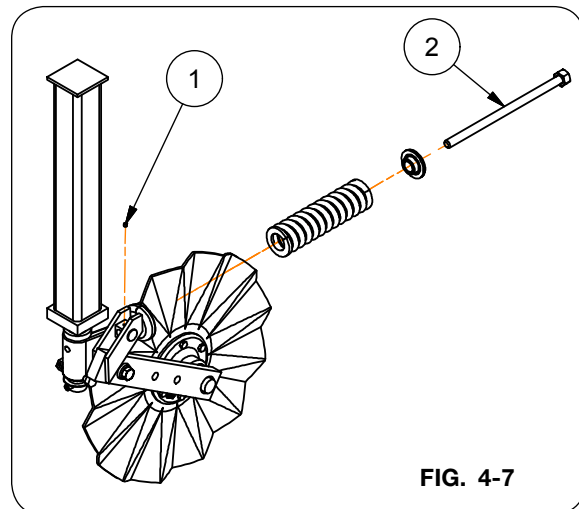

FIG. 4-7
6. Remove the spring cans from the toggles by spreading the cans. See Fig. 4-7.
1. Loosen the set screw retaining the spring bolt on the coulter arm (FIG. 4-7).
2. Slowly unscrew the spring bolt which will relieve spring pressure (FIG. 4-7).